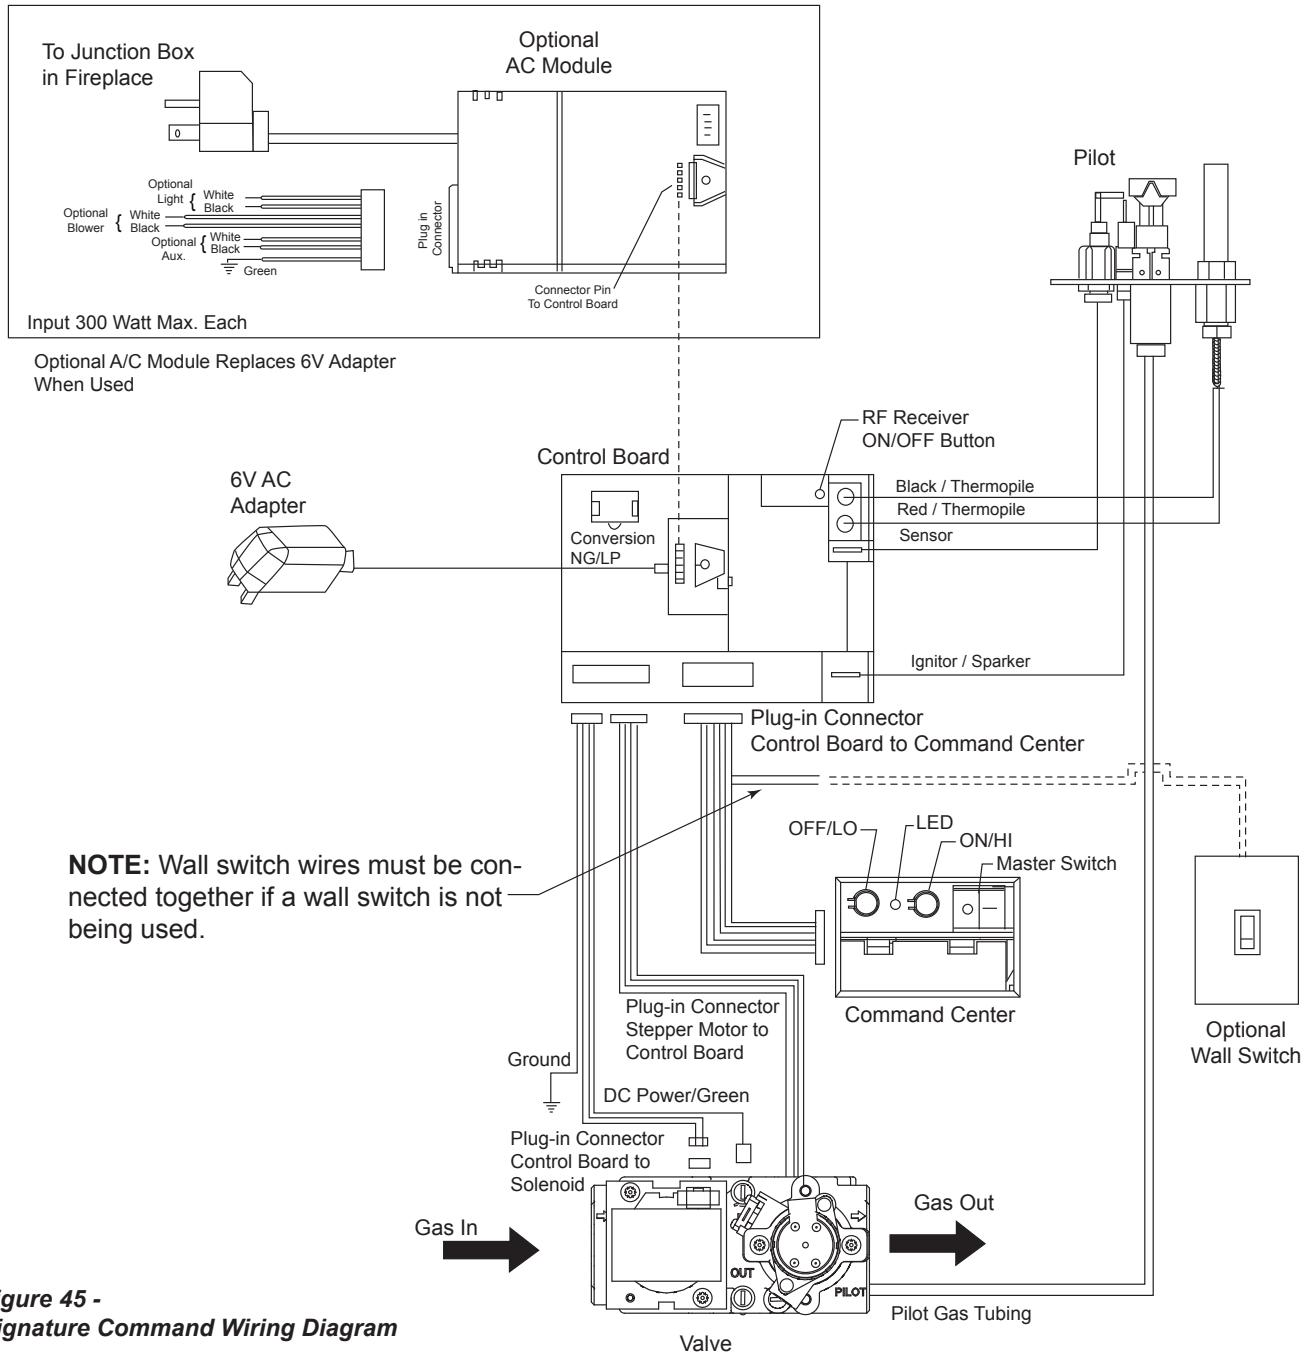

Figure 45 -
The wall switch wire connection is located off the 2 ft. wire harness from the control box to the command center. *Figure 45*. The connection is labeled "Wall Switch". Unplug the male and female connectors and connect the two (2) low voltage wires provided. Run wire to desired location on wall. Up to 50 ft. of 18 ga. wire may be used if necessary. Attach wires to wall switch. Mount the wall switch in to junction box and screw on cover.